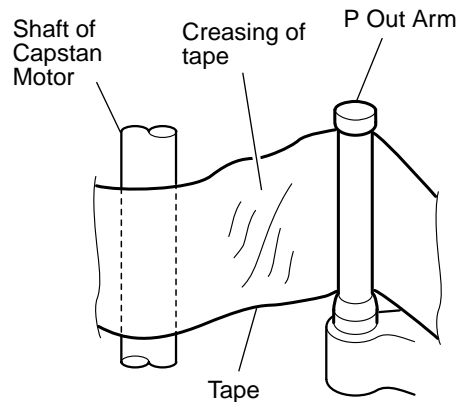

Fig. 3-7
- 3) Visually make sure that the tape is not twisted between the capstan motor shaft and P Out arm. (See Fig. 3-7)